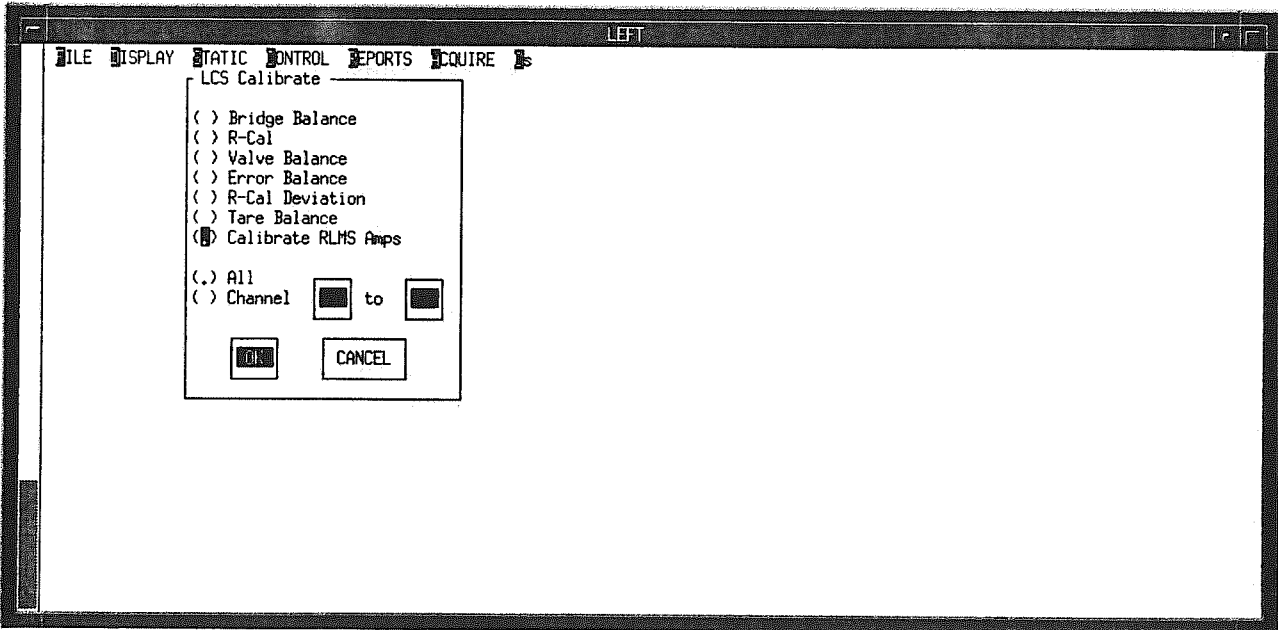

Figure 2-2 Example of a Pull Down Menu
- Step 2:** Press either RETURN or the down arrow key. The screen displays the list of functions that may be accessed through that menu choice, as shown in **Figure 2-2**. The highlighted block is located at the first selection in the function list.